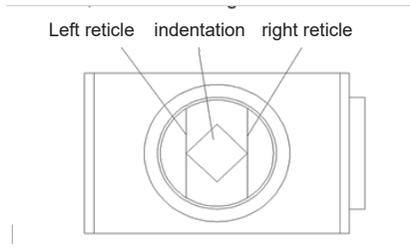

Fig.5.4 Long measurement indentation diagram
- 9) Rotate the right drum (18) to separate the scoring lines, then move the left drum (15) to move the left scoring line, When the inner side of the left scoring line is tangent to the intersection point of the left contour of the indentation, move the right scoring line again to make the inner side tangent to the intersection point of the indentation contour, as shown in Figure 5.4.